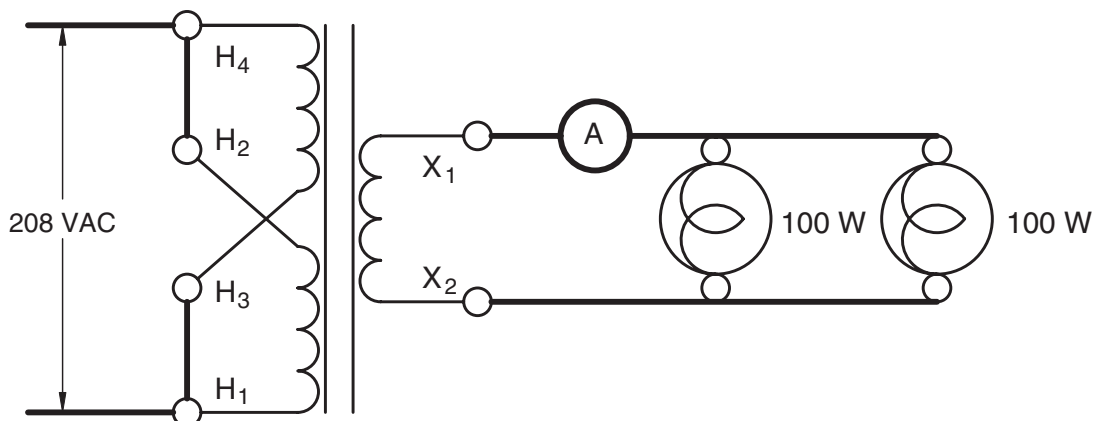

Figure 20-2 Two lamps are connected in parallel to the secondary winding.
7. Connect two 100 watt incandescent lamps in parallel with the low-voltage winding of the transformer. Connect an AC ammeter in series with one of the lines, as shown in Figure 20-2.